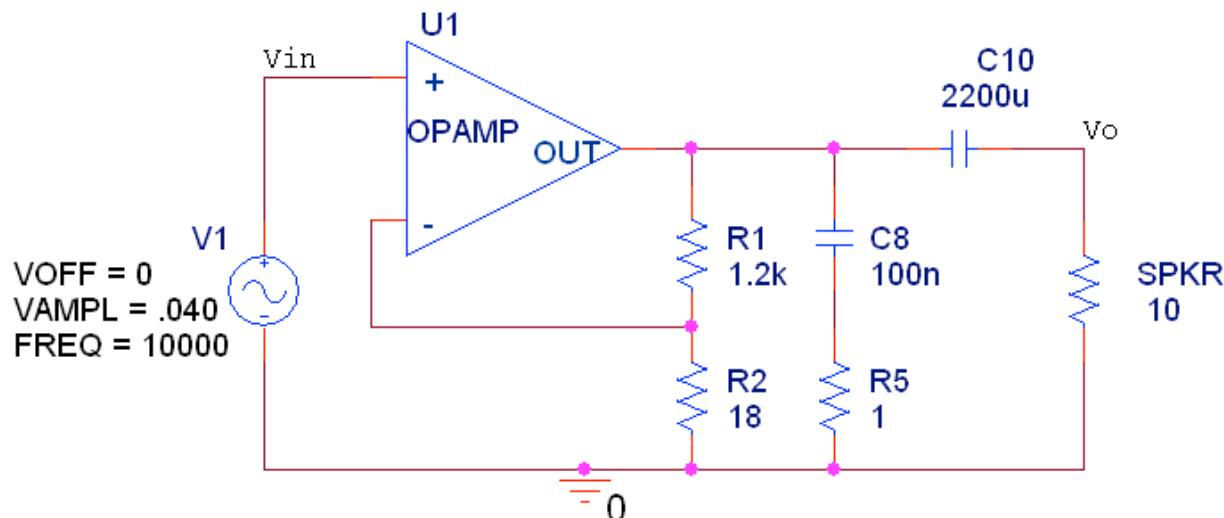

Figure 1: Simplified Schematic for One Channel of the Stereo Amplifier
1. In PSpice, simulate the circuit shown in Figure 1. Print the waveforms of the input and output voltages,  $V_{in}$  and  $V_{out}$ , as well as the circuit schematic. (**NOTE: Your name must appear in the filename at the top of all waveform printouts!**)